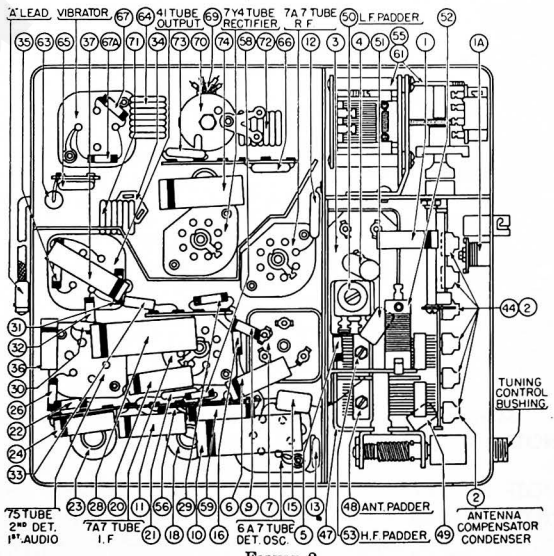

FIGURE 2
**NOTE 5** — When installing the radio in the car, follow the installation instructions carefully. Tune in a weak broadcast signal between 1200 and 1400 Kilocycles on the control scale. Remove the plug button on the end of the radio and adjust the antenna compensator ② (See Figure 2) for maximum signal.